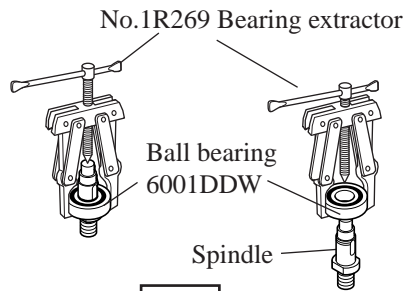

Fig. 7
- (5) And remove ball bearing 6001DDW from spindle with 1R269 "Bearing extractor". See Fig. 7.
See Fig. 7.